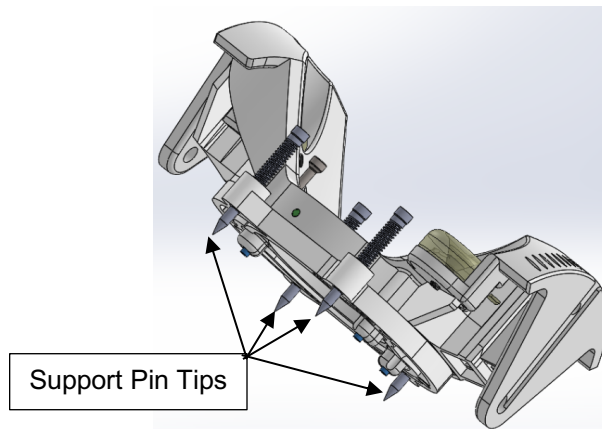

Figure 6: SMARTFrame Array Scalp Mount Base
2. The Scalp Mount Base has three inner screws and four support pins. The support pins have sharp tips. See Figure 6. They have small protective tubes covering them. Remove the tubes before proceeding.